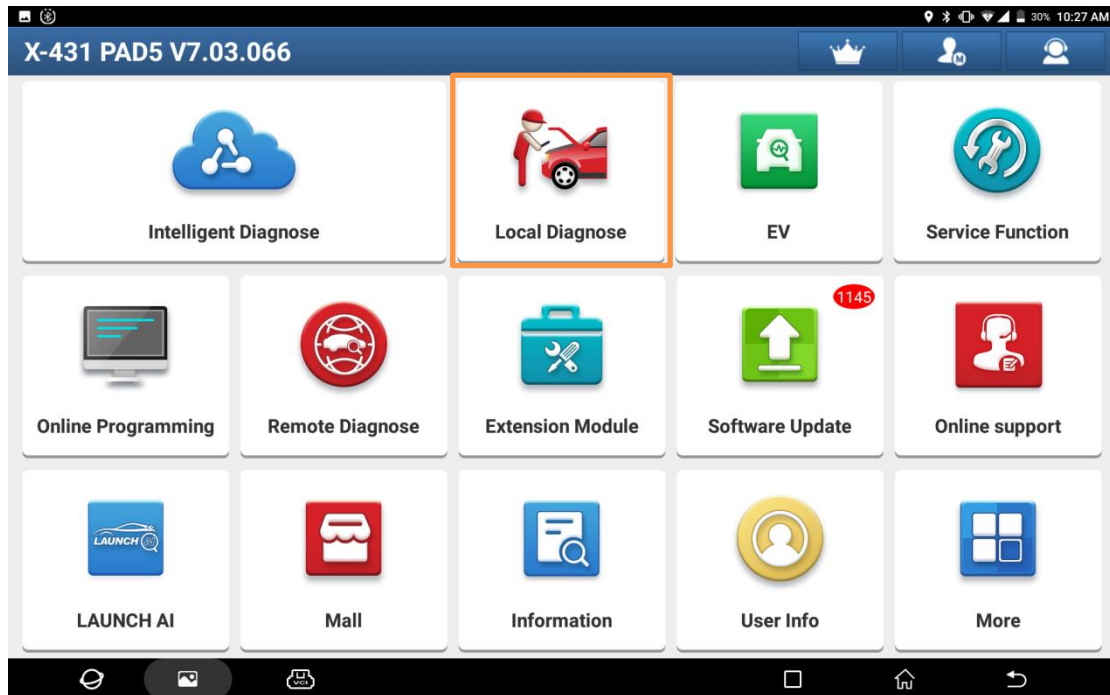
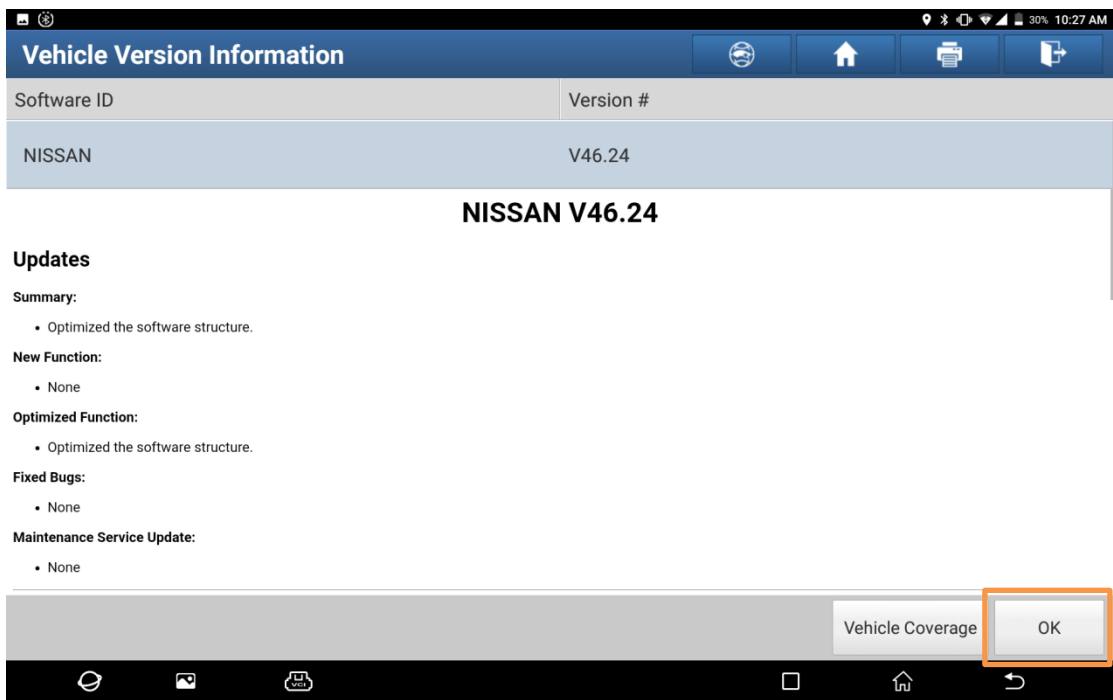
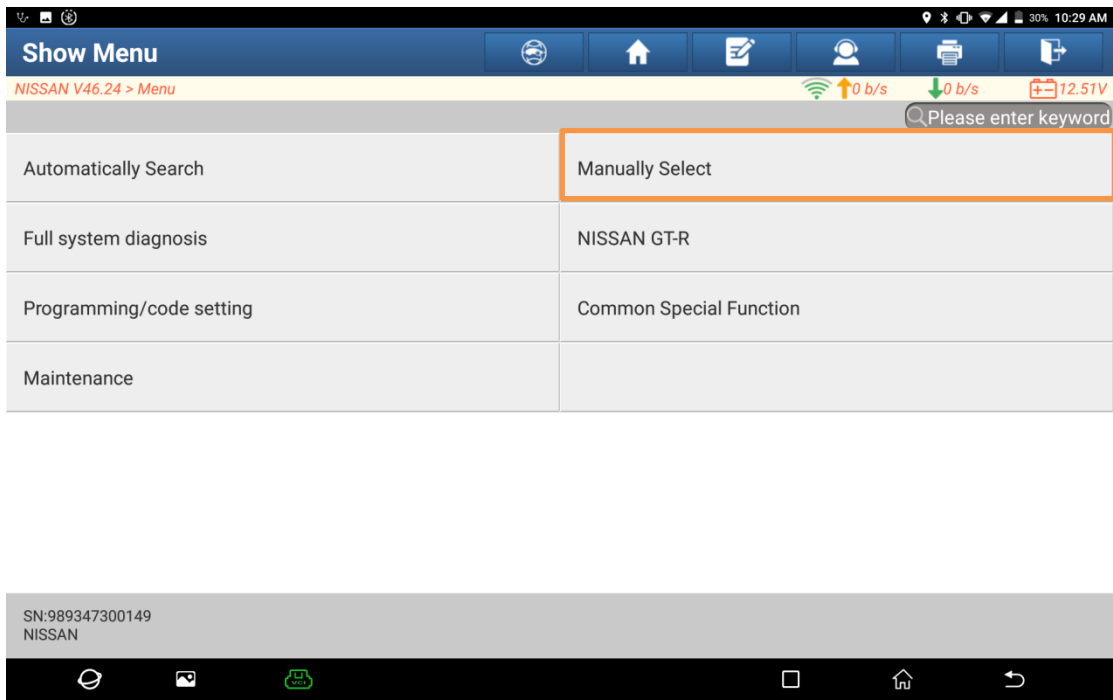

Figure 1
Figure 3
Figure 4
1. On an X431 PAD 5, follow the steps shown in Figure 1 to Figure 3. Choose [Local Diagnose], choose [NISSAN], and then click [OK] to enter the Nissan vehicle model menu interface (Figure 4).